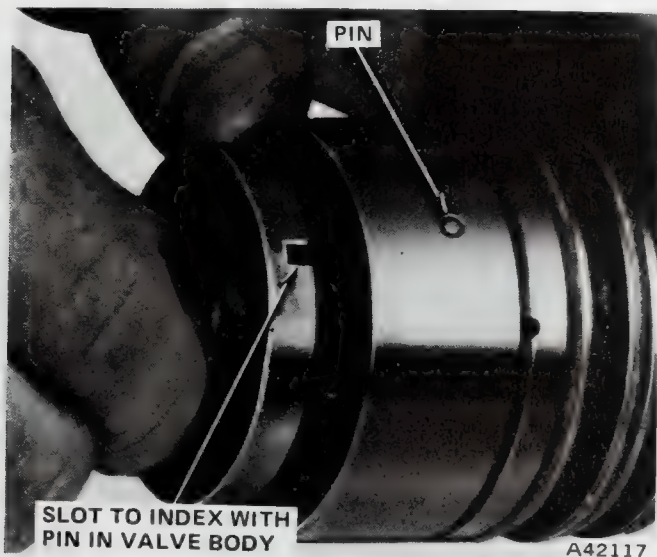

Fig. 2K-91 Installing Stub Shaft in Valve Body
(19) Align notch in valve body with locating drive in pinion shaft and install valve body in housing. Be sure drive lugs on pinion shaft are engaged in slots in stub shaft cap. When valve body is correctly installed, fluid return hole in housing will be exposed (fig. 2K-93). If hole is not visible, pinion shaft is not seated, spool valve locating pins are misaligned or valve body stub shaft locating pins are misaligned.